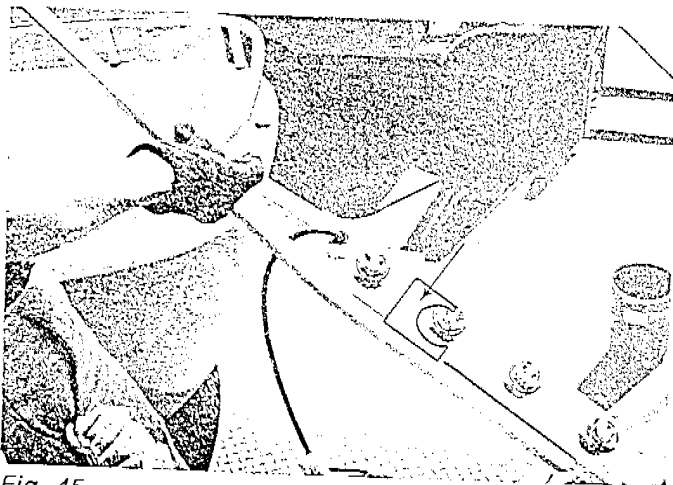

Fig. 45
- c. To use the extender bar, slip the clasp on the end of the bar between the two bottom lights on the light strip. (Fig. 45)